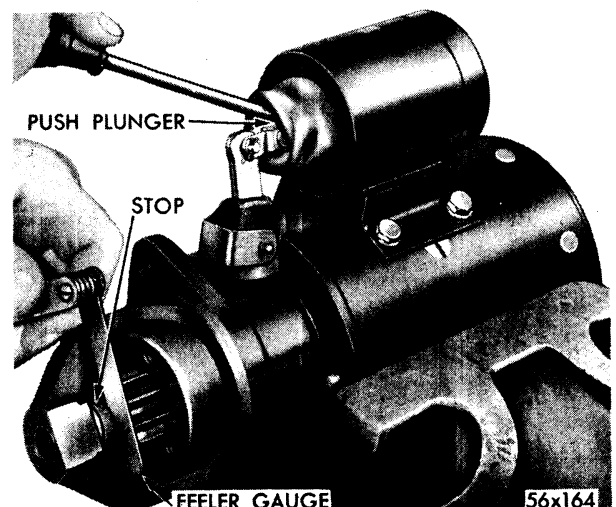

Fig. 5—Adjusting Starter Drive Pinion Clearance
15. ADJUSTING STARTER DRIVE GEAR (PINION) CLEARANCE (FIG. 5)
Place starter assembly in vise equipped with soft jaws and tighten vise sufficiently to hold starter. Push in on solenoid plunger link adjusting bolt (**NOT THE FORK LEVER**) until plunger bottoms. Measure clearance between end of pinion and pin stop with plunger seated and pinion pushed toward commutator end (Fig. 5). The clearance should be $\frac{3}{32}$ inch, plus $\frac{1}{32}$ inch or minus $\frac{1}{64}$ inch. Adjust for proper clearance by screwing link in or out of plunger as required. Bend cotter key and